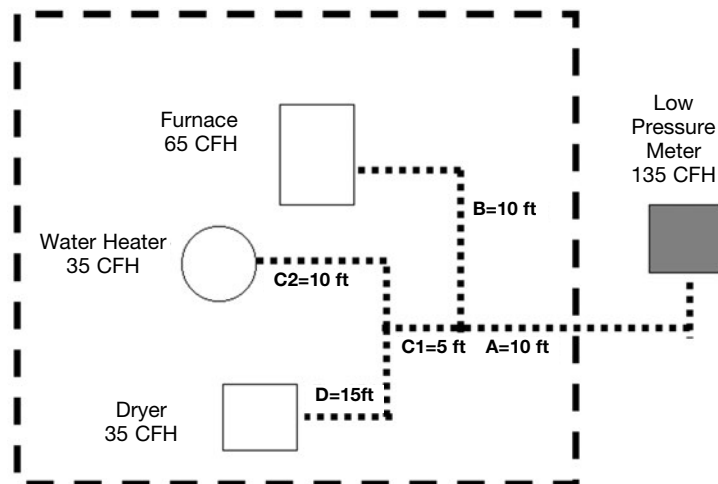

Figure: 3-8
- The system presented in Figure: 3-8 is similar to that in 3-1, a single-family installation with the addition of one more appliance, a dryer. The supply pressure is 6 inches water column and the allowable pressure drop is 0.5 inch.